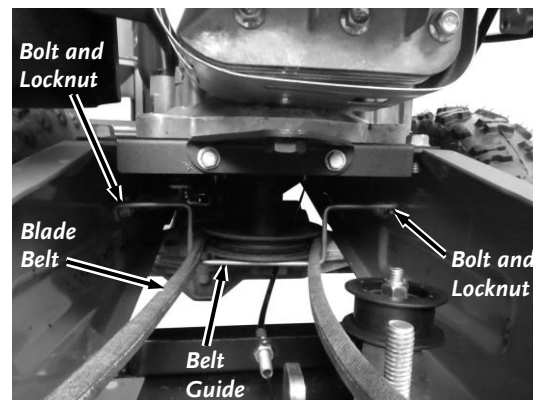

Figure 23
5. Remove the Bolts and Locknuts securing the Engine Pulley Belt Guide using two 9/16" Wrenches and remove the Belt Guide (**Figure 23**).
**NOTICE!** Make sure the new Belt is inside the Belt Guide as shown in Figure 23.
2. Remove the Bolts and Locknuts securing the Engine Belt Guide using two 1/2" Wrenches and remove the Belt Guide (**Figure 23**).
18. Install the Blade Belt onto the Lower Engine Pulley (Figure 23).